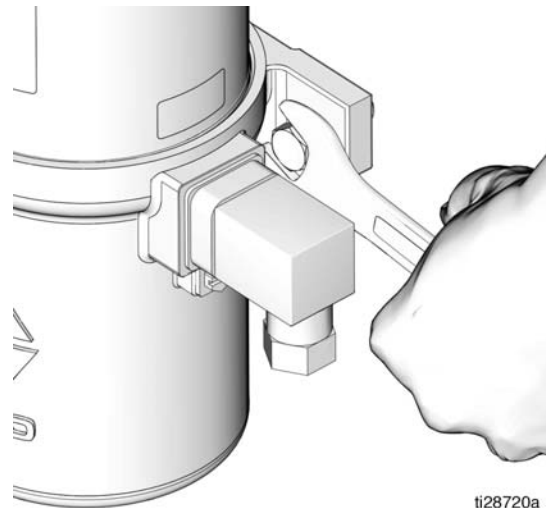

FIG. 11
7. Remove mounting bolts (FIG. 11) and remove the pump from service.